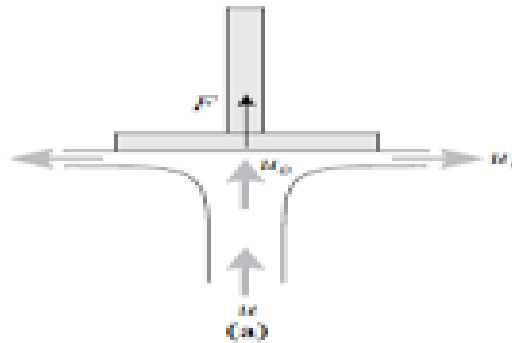

Fig. 6 Impact of Jet on vanes
6.1. Determining the effects of fluid viscosity on the accuracy of Bernoulli's equation predictions in diverse flow conditions in fig.6
7.1 Determine the reaction forces produced by the change in momentum of a fluid flow when a jet of water strikes a flat plate. Stationary surfaces on flat vanes as shown in Fig. 6
7.2 Calculate of the impact of a jet on vanes, encompassing both flat and curved configurations, delves into the fundamental principles governing fluid-solid interactions. Fig. 6